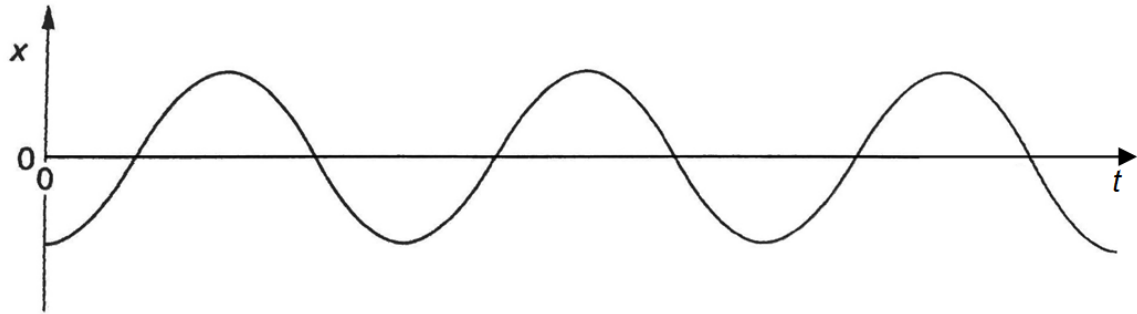

Fig 4.2
(ii) Sketch on Fig. 4.2 the variation with time of the e.m.f. across **XY**. [2]
An electromagnet is placed near to the centre of the aluminium sheet. The mass is displaced vertically and, with the electromagnet **switched off**, the mass is released. The variation with time t of the displacement x of the mass is shown in **Fig. 4.2**.
- (i) On **Fig 4.2**, sketch the new variation with time t of the displacement x of the mass. [2]